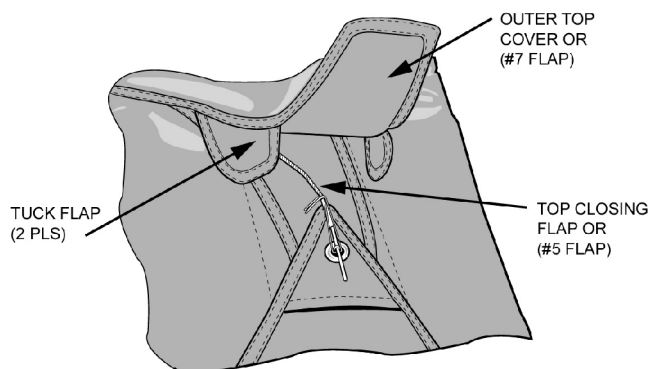

**Figure 5. Ripcord Secure Tie**
c. Using a 12-in. length of size A thread, single and waxed, form lark's head knot above ripcord pin ferrule. Tie two half hitches around ripcord cable above ripcord pin ferrule. Separate thread and route one thread under ripcord pin and against closing loop, tie with a surgeon's knot, followed by a square knot followed by a binders knot. Trim off excess thread (Figure 5).